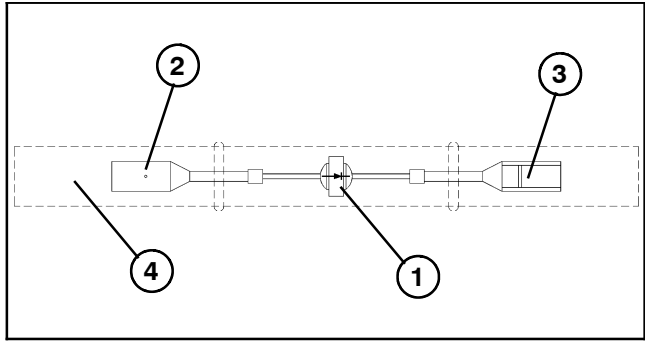

Figure 13
1. On early production machines, the diodes are located within the main wiring harness that lies under the hydraulic tank and control console (Fig. 13).
1. Diodes located within the main harness (Fig. 13):